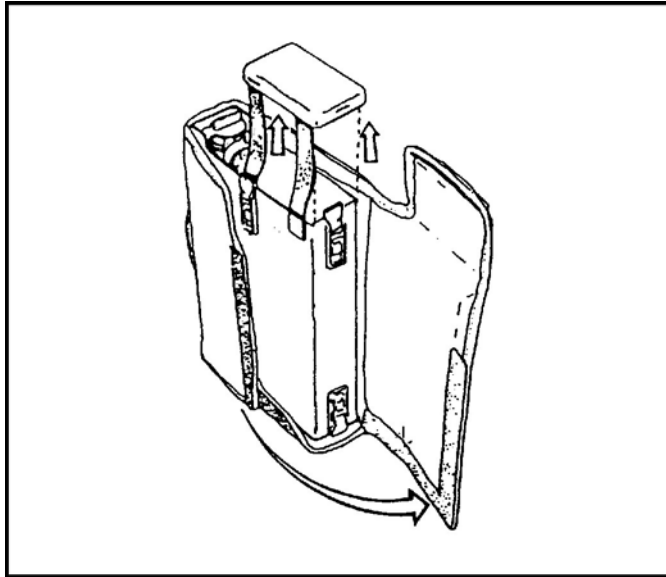

Figure 3. Battery compartment opened.
- c. Open the bottom flap, release the two battery cover latches, and lift off the battery compartment cover (Figure 3).